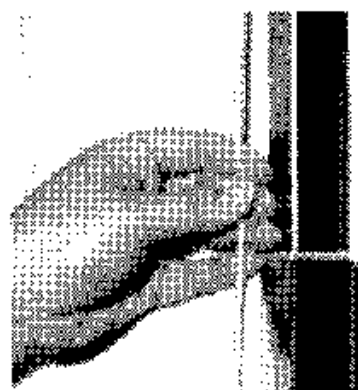

Fig. 3
3. Push toggle switch "up" to initialize power and raise roof. Continue to hold the toggle switch up until the gray limit cable is **ALMOST** taut. Fig. 3
8. Now, complete raising roof until gray limit cable is snug. **DO NOT OVERTIGHTEN.** Fig 3